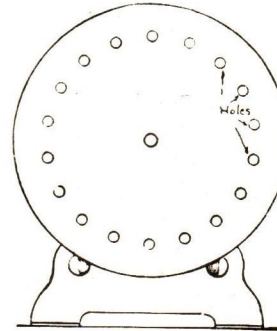

Fig. 7
(1) Punch a ring of evenly spaced holes around the edge of a disk 3 inches in diameter with a sharp-pointed nail and make a hole in the center of it, as shown at A in Fig. 7, and mount it on the shaft of your motor. Take a rubber tube $\frac{1}{4}$ inch in diameter and 1 foot long, make a mouthpiece of cardboard and fix the small end of it to one end of the tube. Now run your motor and then blow with the mouthpiece, when the disk will give forth a musical note. (2) Punch a ring of unevenly spaced holes around the edge of the disk, rotate it, and blow into the tube as before, when it will give forth a curious noise.